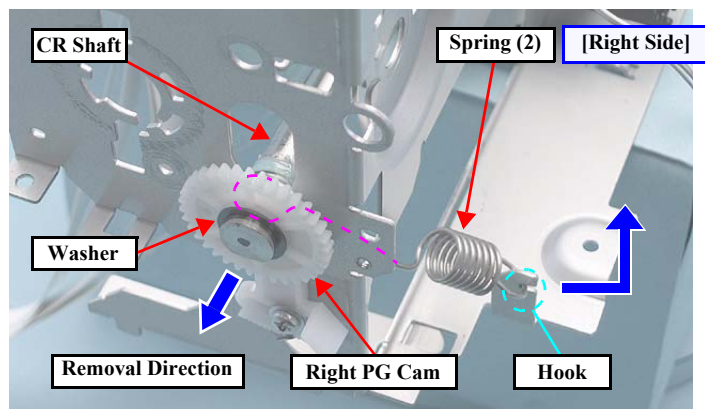

Figure 4-89. Removing the CR unit (2)
- When attaching the spring (2) and the washer for the Right PG Cam to the CR Shaft, make sure to attach them to the positioning slits on the CR Shaft. (See Fig.4-89 (p.90))